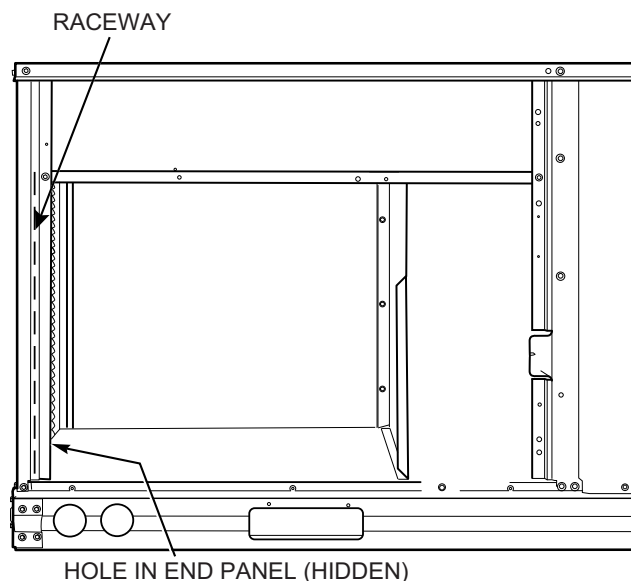

Fig. 32 — Field Control Wiring Raceway
Pass the thermostat control wires through the hole provided in the corner post; then feed the wires through the raceway built into the corner post to the control box. Pull the wires over to the terminal strip on the upper-left corner of the Unit Control Board. See Fig. 32.
2. Feed wires through the raceway built into the corner post (see Fig. 32) to the 24v barrier located on the left side of the control box. The raceway provides the UL-required clearance between high-voltage and low-voltage wiring.
2. Feed wires through the raceway built into the corner post (see Fig. 32 on page 18) to the 24-v barrier located on the left side of the control box. The raceway provides the UL-required clearance between high-voltage and low-voltage wiring.